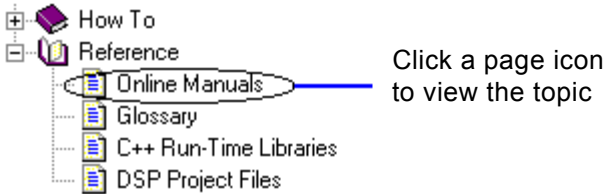

Figure A-5. Contents Page – Online Manuals Topic
- A topic name on the Contents page (Figure A-5)